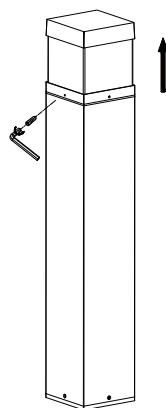

Fig 3
4. Using the hex wrench, loosen the 4 screws on the side of the head, and open the top head. **Fig. 3**